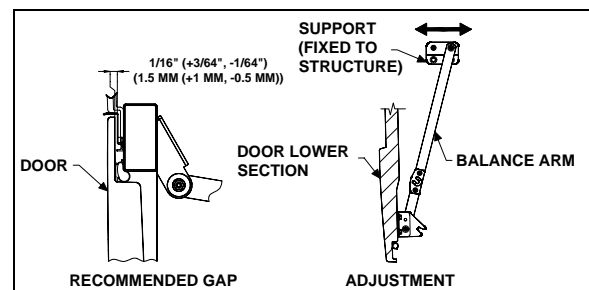

FIGURE 60: BAGGAGE COMPARTMENT DOOR 18071
8. Recheck gap mentioned in step 6. If gap has changed, correct by adjusting arm support fixed to structure. Loosen the bolt supporting the balance arm on door lower section and close the door, gap adjustment will automatically result. Tighten the bolt from inside the compartment (Fig. 60).